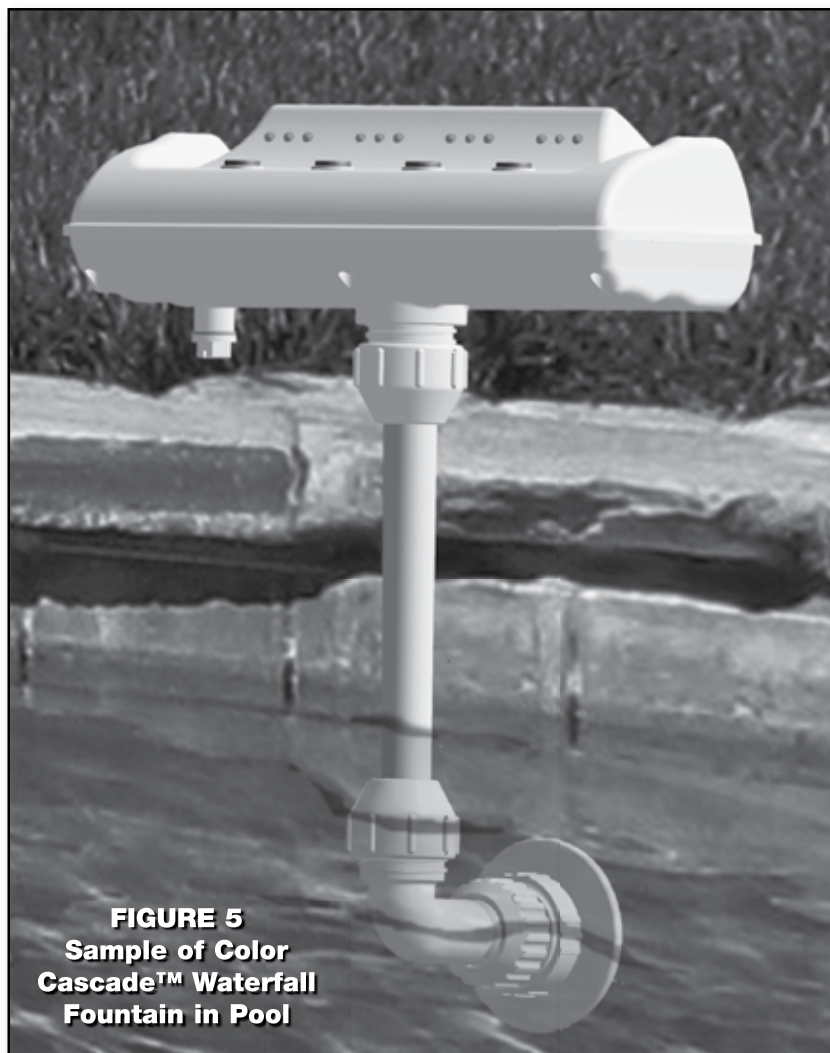

FIGURE 5
9. Turn on the pool pump. (See Figure 5 on next page to view **Color Cascade™ Waterfall Fountain** in Pool).